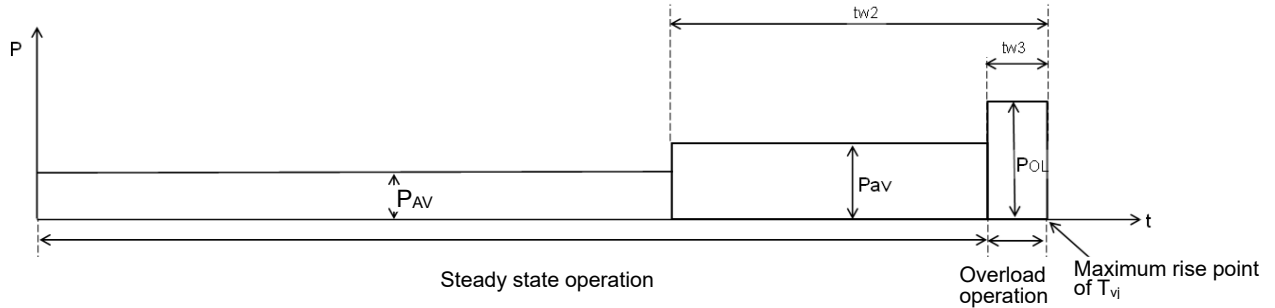

Figure 8-9. Concept of the junction temperature 3
In this case, ripple due to  $P_{OL}$  must also be taken into consideration. As in the case of (1), perform a square wave approximation as shown in Fig. 8-9.